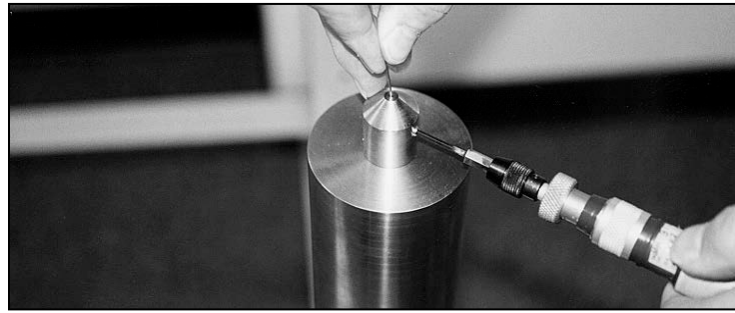

Figure 9 - Tighten the Set Screw to the Wire
- 7) Tighten the setscrew against the wire with the wrench provided (Figure 9). Do not use excessive force (18 in/lbs.); experiment with a short piece of wire first.